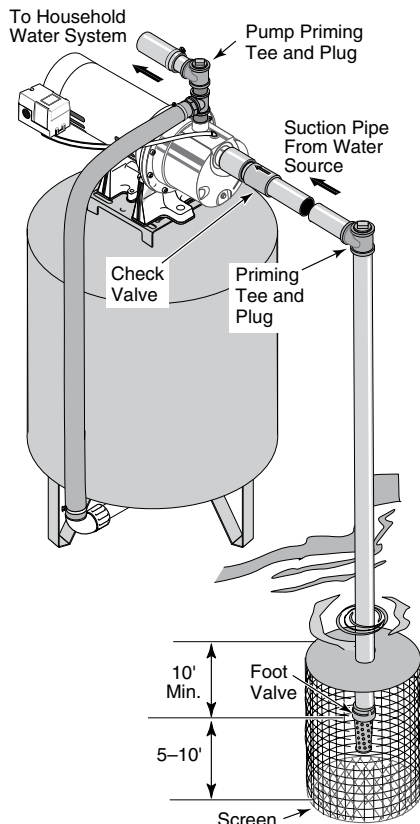

Figure 3: Surface Water Installation
Installation for Surface Water (Figure 3)
2. Assemble a foot valve and suction pipe (see Figure 3). Make sure that the foot valve works freely. Use PTFE pipe thread sealant tape or a PTFE-based pipe joint compound on threaded pipe joints. Protect the foot valve assembly from fish, trash, etc, by installing a screen around it (see Figure 3).
4. Install a priming tee, priming plug, and suction pipe to the pump (see Figure 3). Support the pipe so that there are no dips or sags in the pipe, so it doesn't strain the pump body, and so that it slopes slightly upward from the well to the pump (high spots can cause air pockets which can air lock the pump). Seal the suction pipe joints with PTFE pipe thread sealant tape or a PTFE-based pipe joint compound. Joints must be air- and water-tight. If the suction pipe can suck air, the pump cannot pull water from the water source.